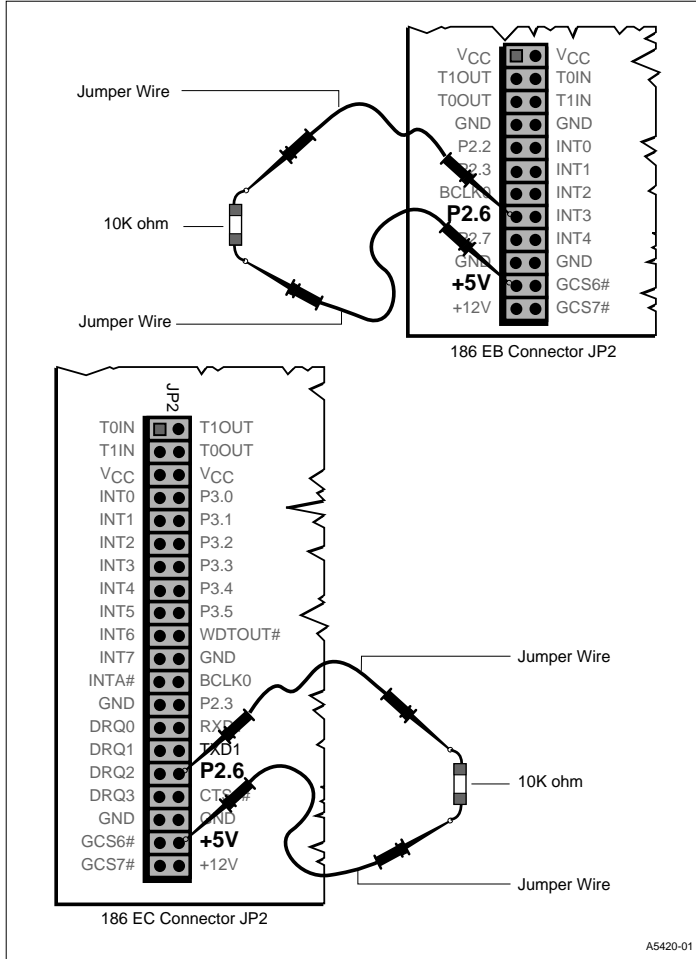

Figure 3-2. Jumper Assembly for Flash Downloading
2. Port pin P2.6 on the secondary header (JP2) controls which programs execute at start-up. Connect P2.6 to the +5 volt pin with jumper wire and 10 k Ω resistor. Figure 3-2 illustrates this connection.